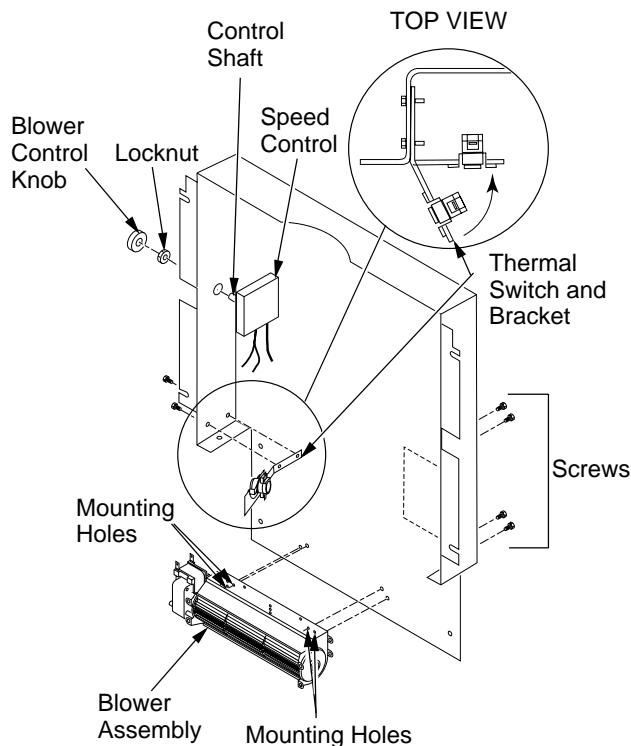

Figure 10 - Blower Assembly, Speed Control, and Thermal Switch Locations
3. Align the holes in the top mounting tabs of blower with the holes in wall of rear cover. Using the 4 screws provided, mount blower and tighten screws securely (see Figure 10, page 7).
4. **Thermostat Blower Only:** Attach thermal switch and bracket to inside rear cover wall with two hex head screws provided as shown in Figure 10. After securing bracket to rear cover, carefully bend along existing bend line on bracket to almost a 90° angle (see Figure 10). This will allow thermal switch to be positioned against stove rear wall and sense temperature when in operating mode.
5. Place speed control on left inside of rear cover and push the plastic control shaft through opening (see Figure 10).